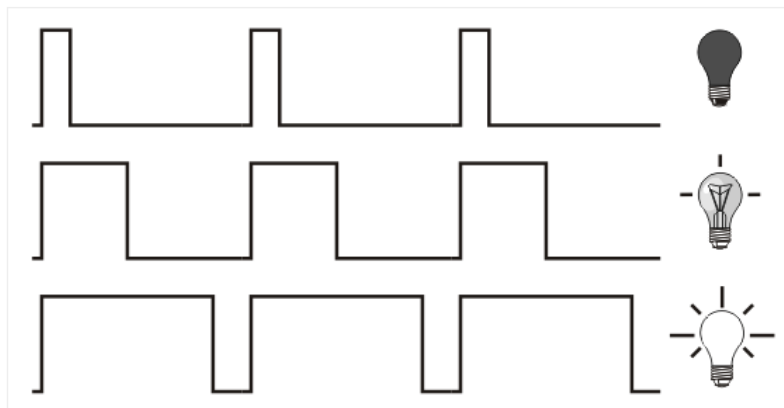

Fig. 5-4 CCP1 in PWM mode
Signals of varying frequency and duty cycle have a wide application in automation. A typical example is a power control circuit whose simple operation is shown in figure 5-4 below. If a logic zero (0) represents switch-off and logic one (1) represents switch-on, the power that the load consumes will be directly proportional to the pulse duration. This ratio is often called *Duty Cycle*.